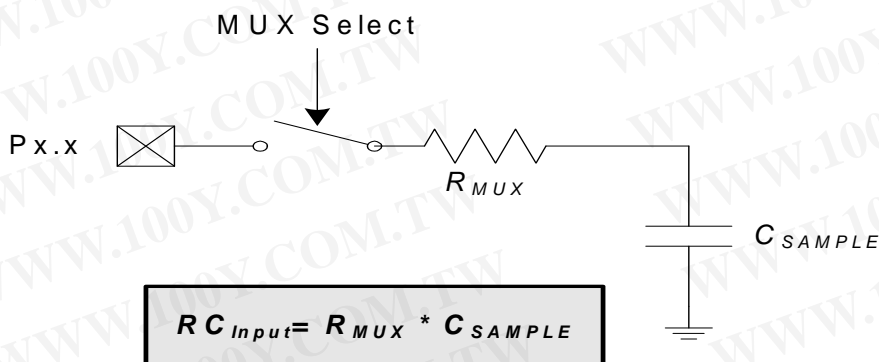

Figure 6.5. ADC0 Equivalent Input Circuit
Figure 6.5 shows the equivalent ADC0 input circuit. The required ADC0 settling time for a given settling accuracy (SA) may be approximated by Equation 6.1. When measuring the Temperature Sensor output, use the settling time specified in Table 5.10 on page 50. When measuring  $V_{DD}$  with respect to GND,  $R_{TOTAL}$  reduces to  $R_{MUX}$ . See Table 5.9 for ADC0 minimum settling time requirements as well as the mux impedance and sampling capacitor values.